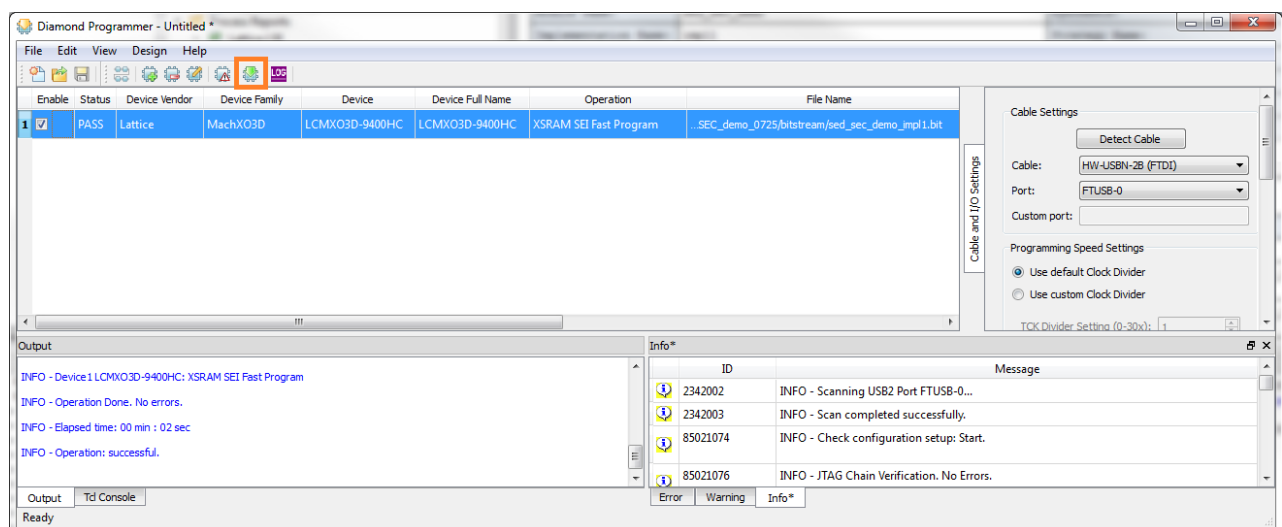

Figure 6.12. Reload Design Bitstream in Background through JTAG
4. Click the **Program** button on the toolbar, as shown in Figure 6.12, to initiate background programming of the device. The original design bitstream is loaded after the software reports “Operation: successful”.